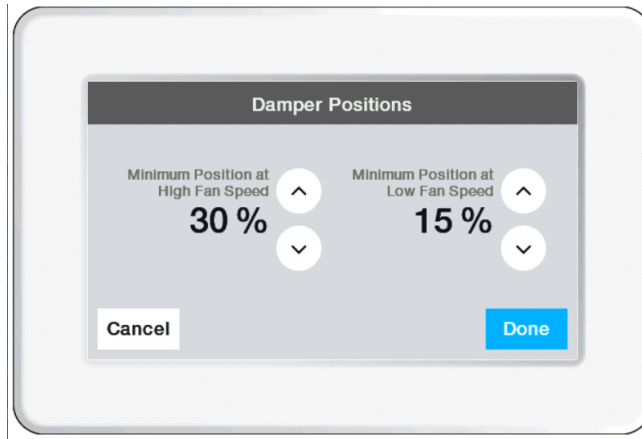

Fig. 13.
- (1) Use up and down arrow buttons to select outdoor damper positions, refer to Fig. 13.
- (2) Select “Done.”